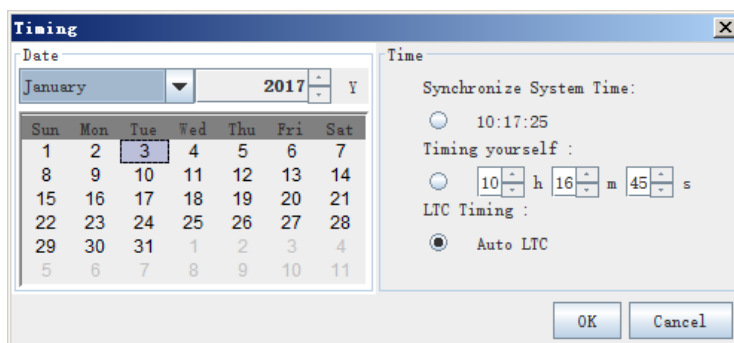

Figure 2.2-6 Timing Dialog Box
- ❑ **Manual Timing:** click this button to timing the multi-image processor manually. It displays the timing window, as shown in **Figure 2.2-6:**